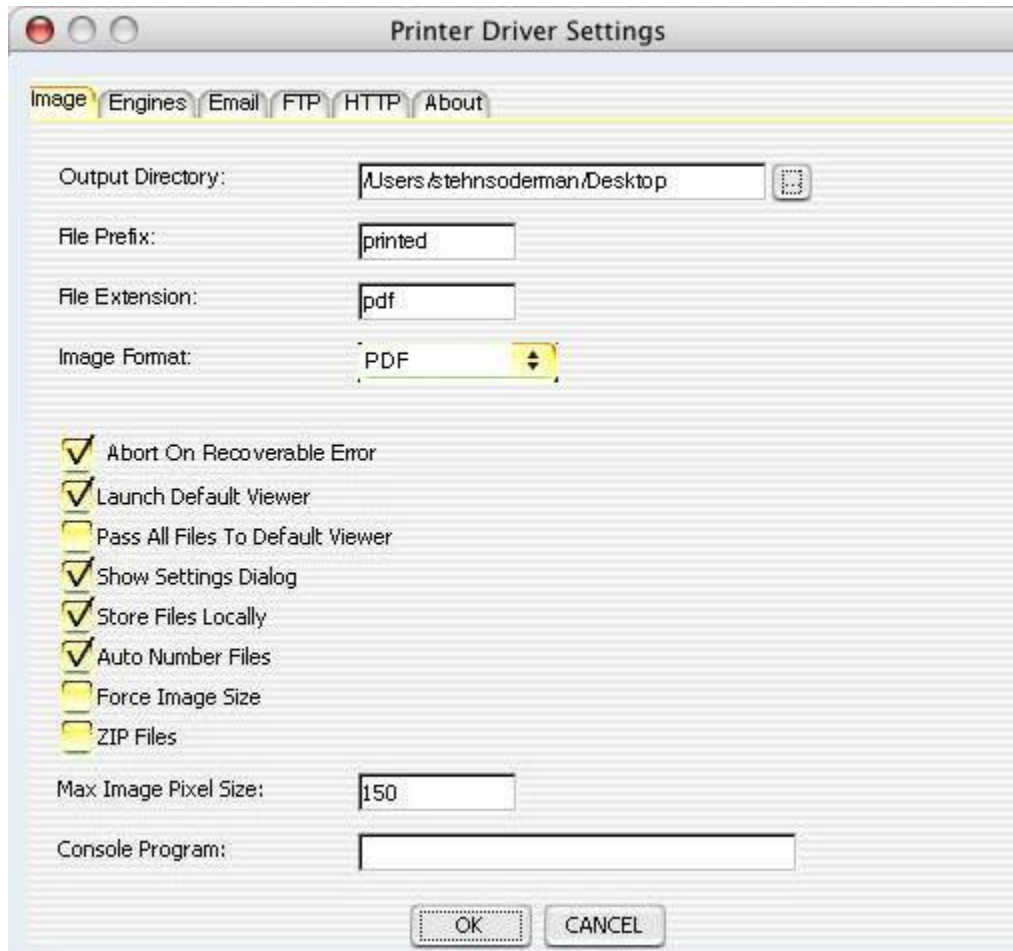

FIGURE 9e
Step 4) Finally, click the 'Choose' button in the lower right corner of the dialog. You will notice the 'Output Directory' has now changed to where your desktop is (Figure 9e).